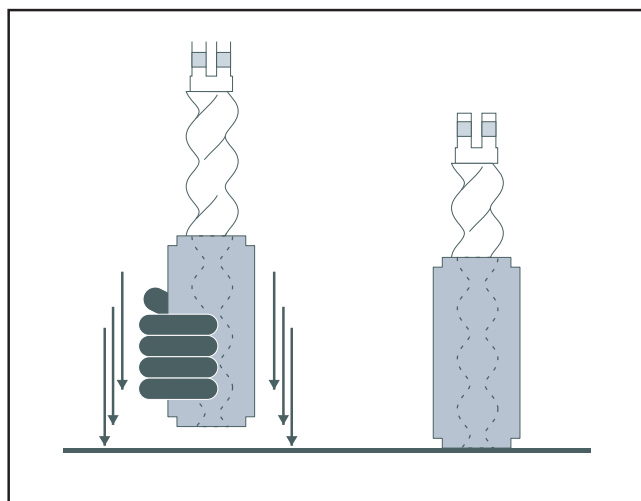

FIG.36
- Hit the pump (stator + screw partially inserted) repeatedly on a base that does not ruin the stator (e.g. a piece of wood) (FIG.36).